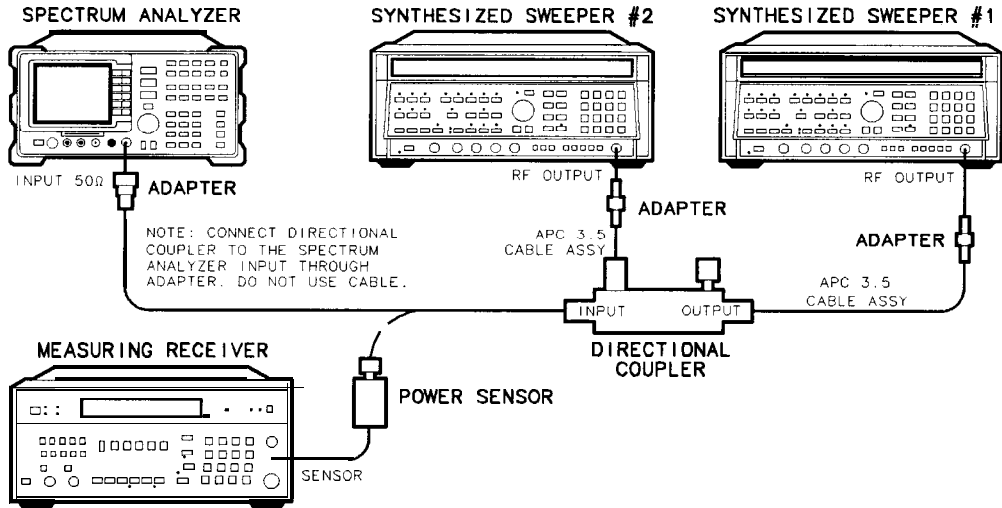

Figure 2-54. Third-Order Intermodulation Distortion **Test Setup**
35. Connect the equipment as shown in Figure 2-54 with the input of the directional coupler connected to the power sensor.